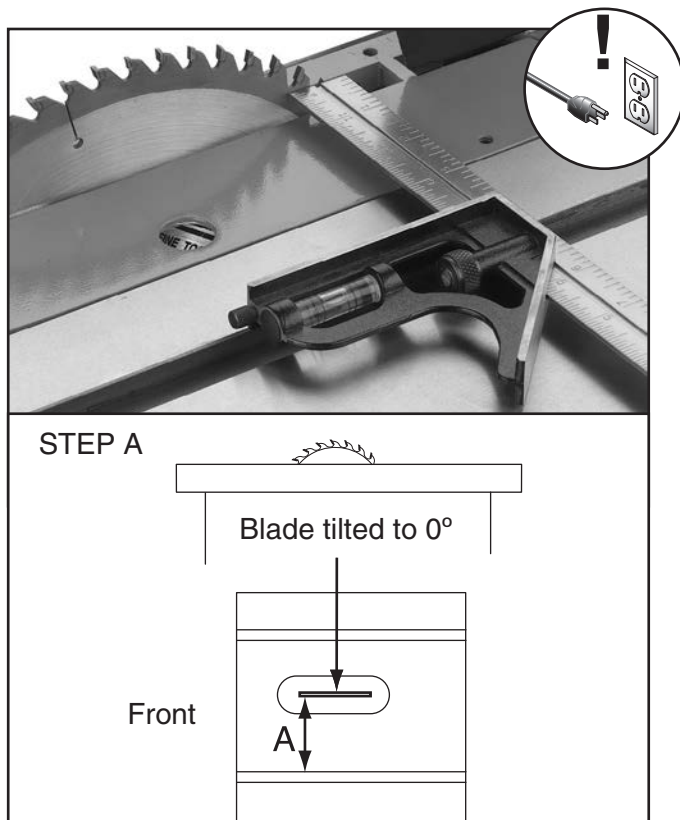

Figure 107. Example of adjusting blade to miter slot.
2. Tilt blade to 0°, then use an adjustable square to measure distance from miter slot to a carbide tip on blade, as shown in **Figure 107**. Make sure that face of adjustable square is even along miter slot.